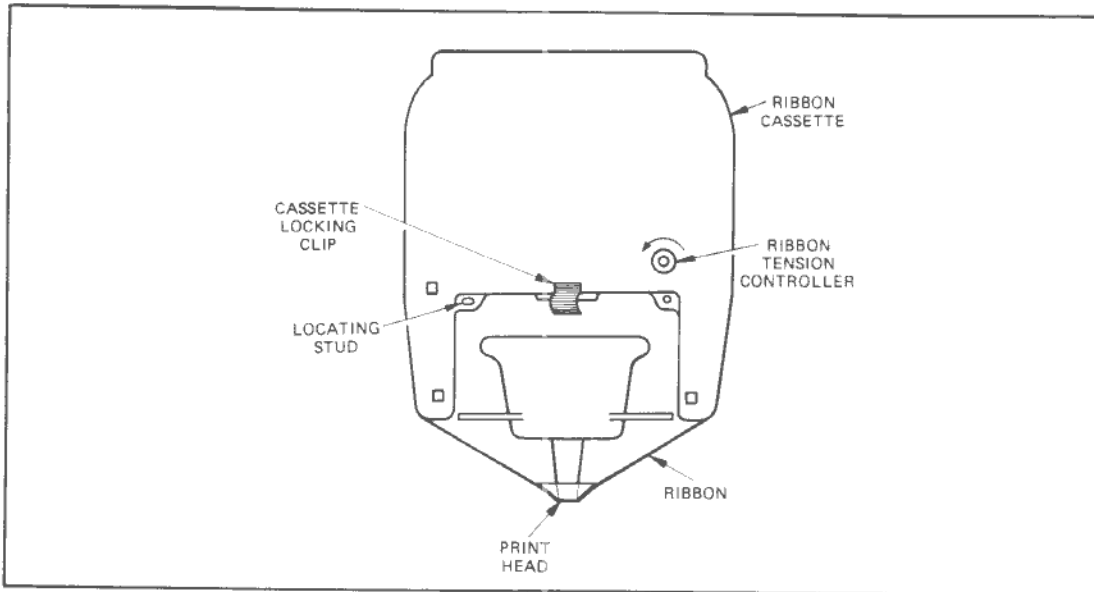

Figure 3-18. Currency Cassette
3. Using the cassette handle (refer to figure 3-18), lift the currency cassette from the feeder. Care must be taken to ensure that no currency escapes from the cassette at this stage.